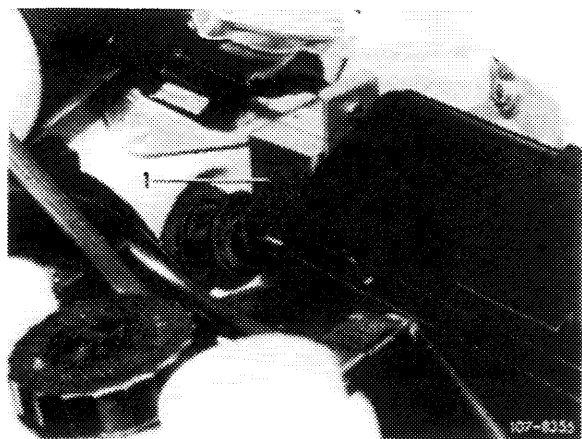

Fig. 07-6/4
- 8 Install time delay switch (1) (Fig. 07-6/4).